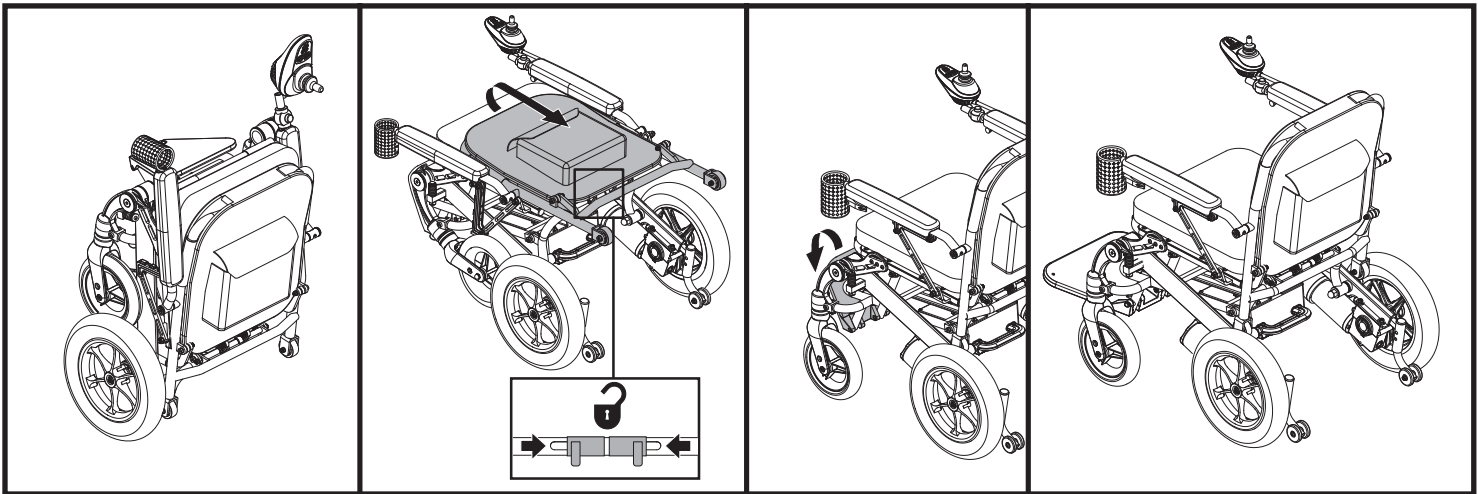

Figure 8. Unfolding the Jazzy® Passport
2. Place one hand on top of the seatback and push it downward while squeezing the pins of the locking mechanism together. **See figure 8.**